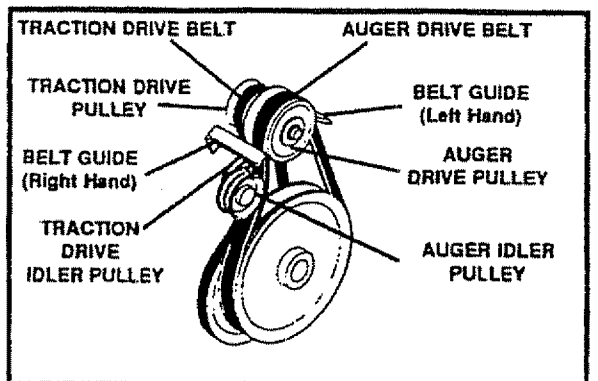

FIG. 25
TRACTION DRIVE BELT (See Fig. 25)
AUGER DRIVE BELT (See Fig. 25)
- Loosen the nut on the idler pulley (See Fig. 25) and move the pulley toward the belt about 1/8".